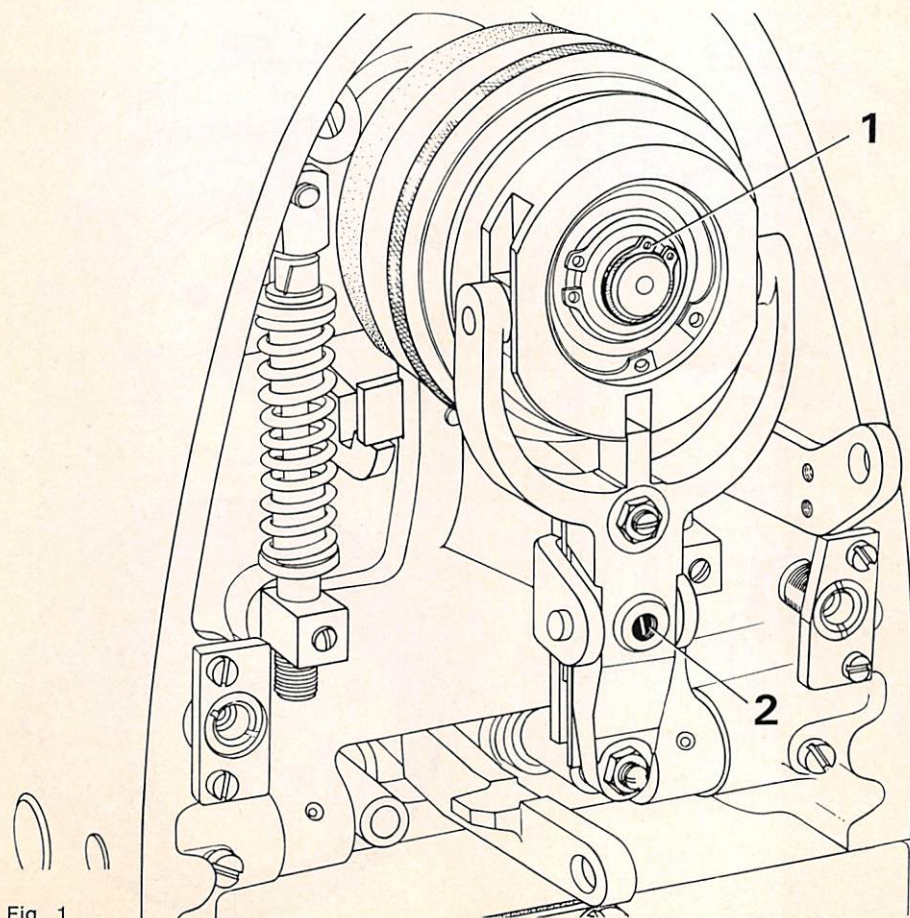

Fig. 1
**1. Removing the forked clutch lever (Fig. 1)**